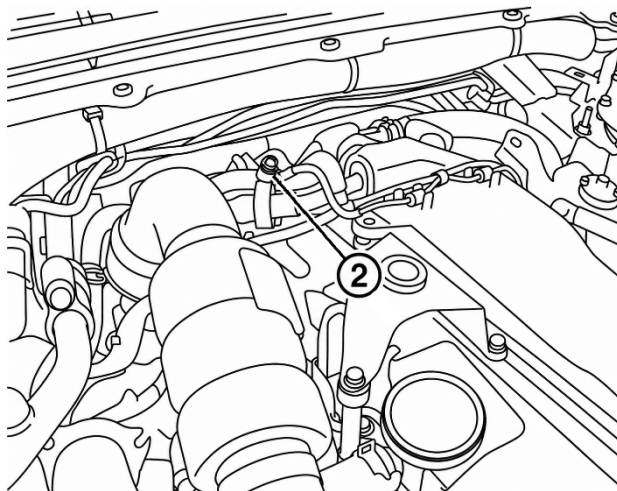

Fig 2.
- Check that engine coolant flows over from the air plug 2 Fig 2. After the overflow occurs, close the air plug.